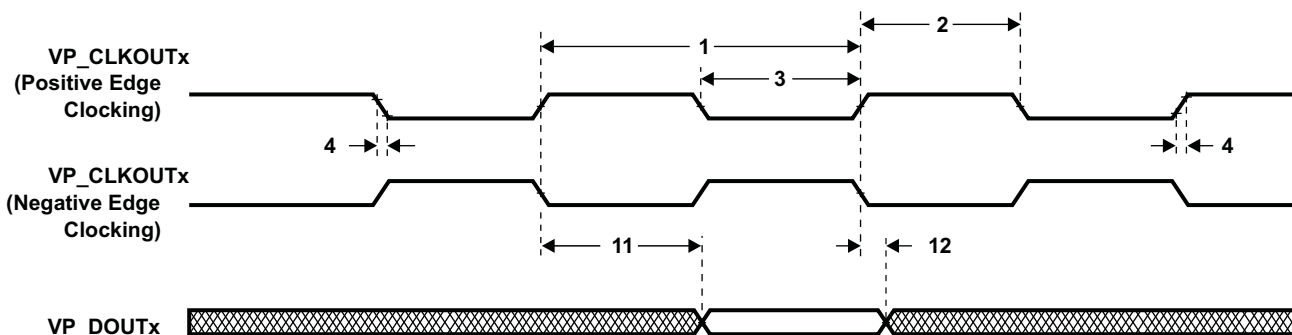

**Figure 6-74. VPIF Channels 0/1 Video Capture Data and Control Input Timing**
**Table 6-120. Timing Requirements for VPIF Channels 0/1 Video Capture Data and Control Inputs (see Figure 6-74)**